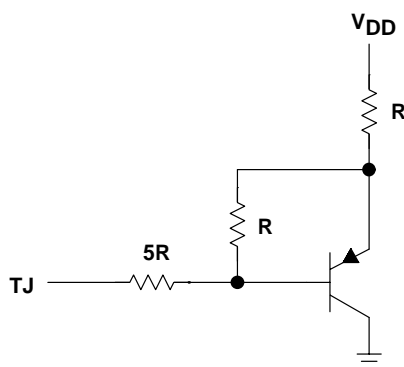

Figure 70. TJ Terminal Internal Circuit
Characterizing a PCB layout with respect to thermal impedance is very difficult, as it is usually impossible to know the junction temperature of the IC in question. The TPA0202 terminal 2 (TJ) sources a current proportional to the junction temperature. The circuit internal to TJ is shown in Figure 70.